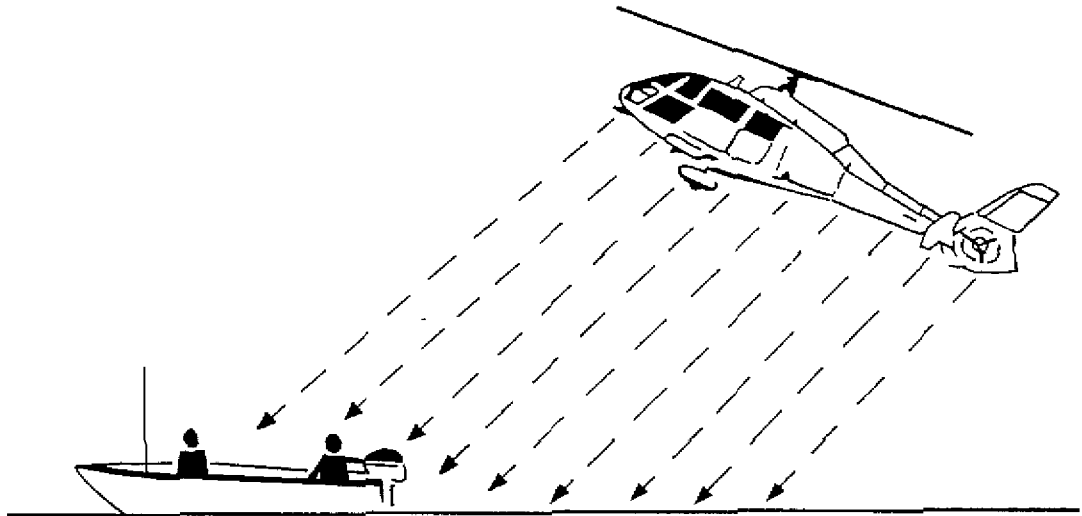

Figure 9.6
- 9.55 This results in the relative positions of the helicopter and the FRB remaining constant and hinders a person or cargo being lowered into or retrieved from the FRB (see Fig 9.6)